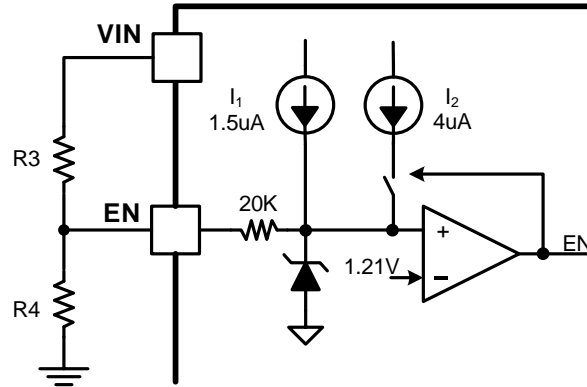

Figure 12. Adjustable VIN UVLO
off-chip resistor divider R3 and R4, shown in Figure 12. The resistor divider R3 and R4 are calculated by equation (1) and (2).